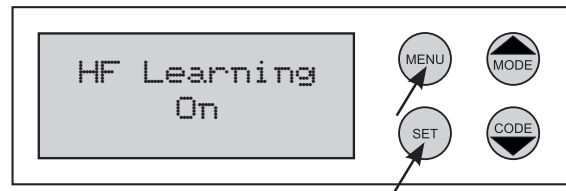

Fig. 42
- 3 Press **MENU** to choose Off (Fig. 42).